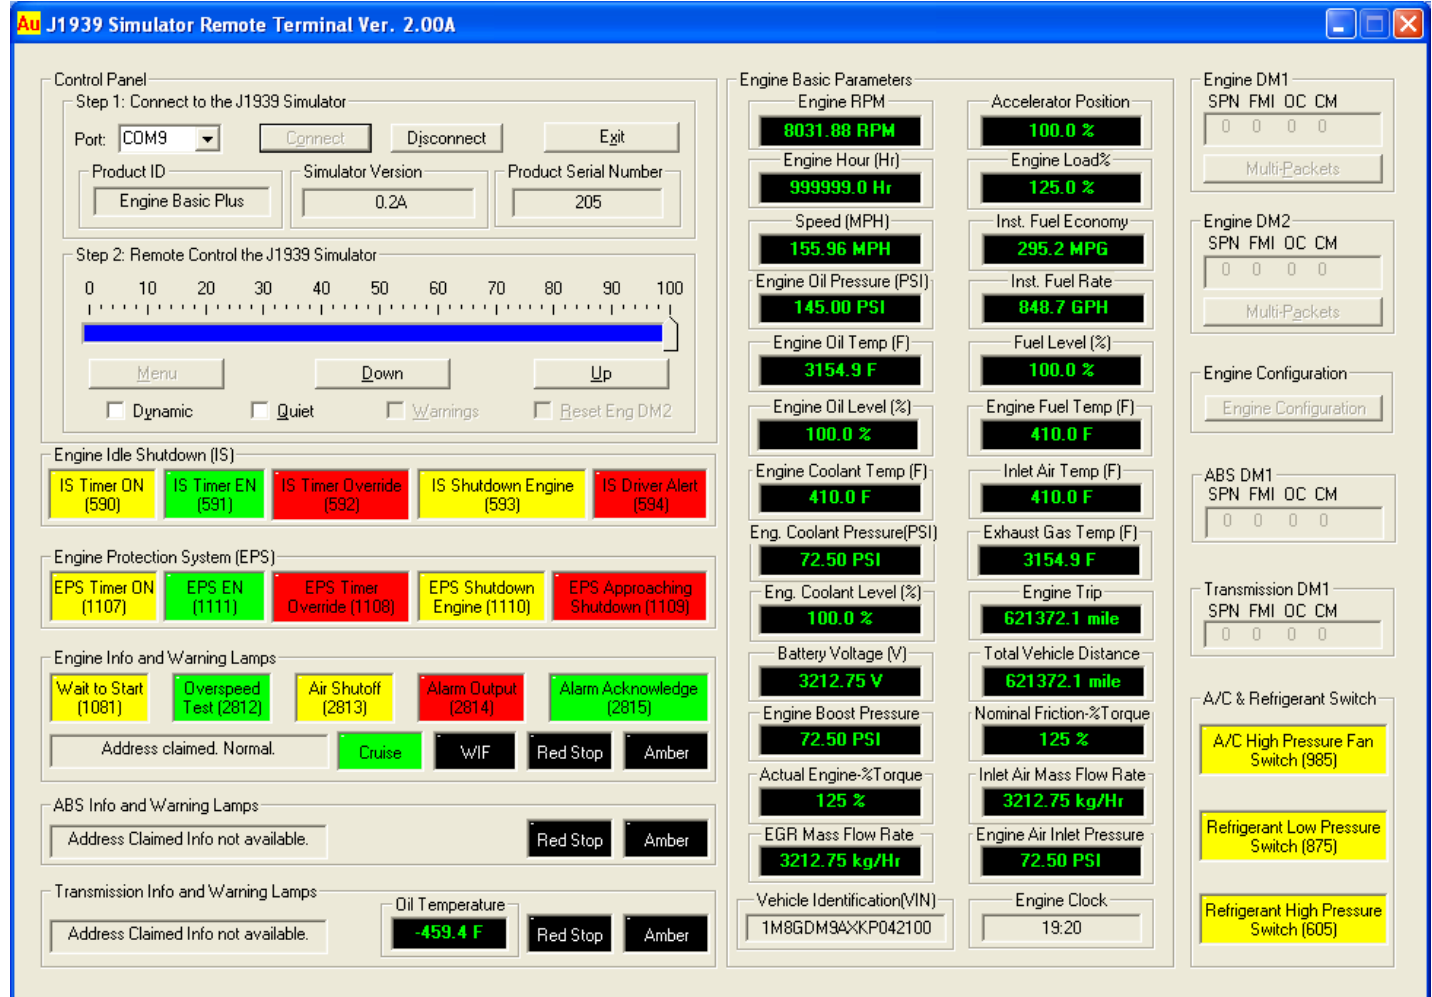

Figure 4-5 Au J1939 Simulator Remote Terminal GUI – Engine Basic Plus
Figure 4-5 shows the J1939 Simulator Remote Terminal for *Engine Basic Plus* edition. Engine Idle Shutdown (IS), Engine Protection System (EPS), A/C & Refrigerant Switch, Engine Info, Cruise lamps, and Engine Basic Parameters are active.